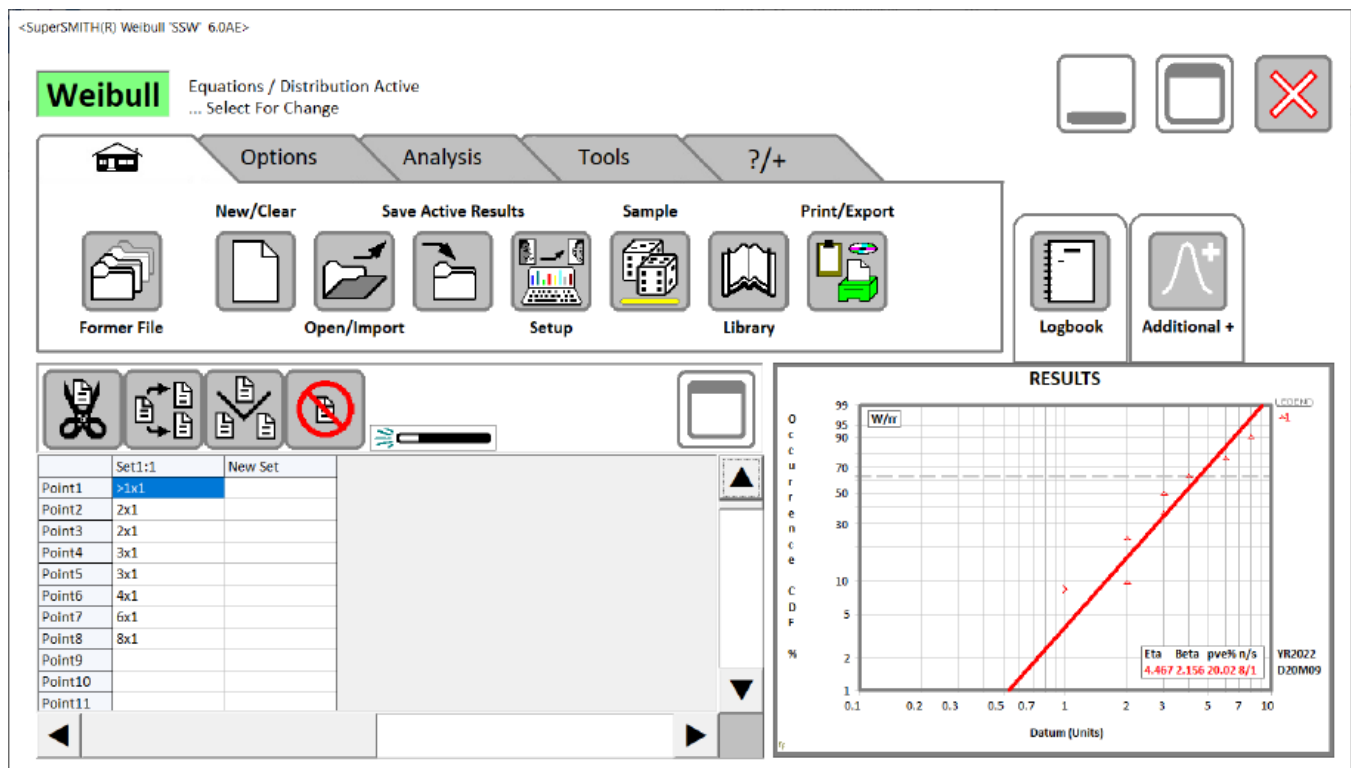

Figure 2: New SuperSMITH Weibull Main Screen Icon Layout.
DIRECT INSTALL: Power up the PC (Windows or simulator). Have the SS **setup.exe** and other installation files available. Load onto the PC by running **setup.exe** and following the prompts. After install, within the SuperSMITH group, select the SuperSMITH Weibull program. This is the SMITHW.EXE file or the icon showing plotted data with fit and confidence lines. Initially select "Yes" to agree to usage conditions, and automatically advance to the Main Screen (Figure 1 below shows the former icon layout, Figure 2 on the next page shows the new icon layout).
Use single selecting (single touching for touch screens) mostly in SuperSMITH. Double selecting is discouraged to minimize hand stress. We will be using life data mostly for illustration, but any type of measured data with variability can be analyzed. **For this tutorial if using the DEMO software, all input data must only be loaded from a file previously saved by a FULL SuperSMITH software program (provided with the software).** If using the FULL software, this is not a concern but maybe easier to do. All file names shown here are on a single text line for easy copying. Reminder: Figure 1 shows the new SSW icon layout for standard pointing device use, and Figure 2 shows an optional larger icon layout with tabs for touch screen use.
Start the SSW software by choosing Start from the Windows™ Main Screen, then the SuperSMITH group, then Weibull. On first use, select “Yes, I agree...” if you are asked and if you agree to the software use terms. You should see the Main Screen (Figure 2 below) with equation label (“Weibull” at first), some tabs, some icons, a data grid and a results box.
B. A probability plot should appear. Select the plot to enlarge. The plot should resemble the one in Figure 2. Your solution should indicate Eta=4.467, Beta=2.156. If not ... check the data and/or reset the method to Weibull “rank regression” standard. Select the full-window plot or use the <ESC> key to shrink the plot which will take you back to the Main Screen.